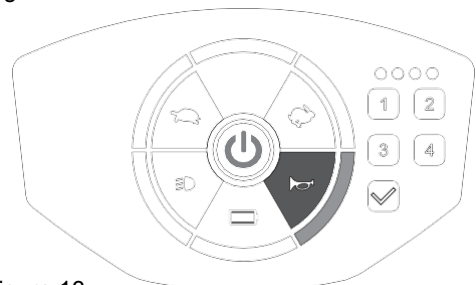

Figure 13
- Press horn button to sound the buzzer. Buzzer sound and light will last until you release the horn button. (Figure 13)